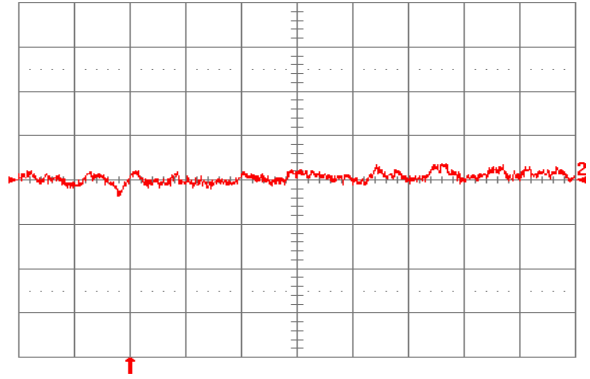

**Fig. 12V.14:** Test Setup for measuring input reflected ripple currents,  $i_c$  and  $i_s$ .
**Fig. 12V.1:** Available load current vs. ambient air temperature and airflow rates for SQ48T04120 converter with D height pins mounted vertically with  $V_{in} = 48\text{V}$ , air flowing from pin 3 to pin 1, and maximum FET temperature  $\leq 120^\circ\text{C}$ .
**Fig. 12V.2:** Available load current vs. ambient air temperature and airflow rates for SQ48T04120 converter with D height pins mounted horizontally with  $V_{in} = 48\text{V}$ , air flowing from pin 3 to pin 1, and maximum FET temperature  $\leq 120^\circ\text{C}$ .
**Fig. 12V.3:** Available load current vs. ambient air temperature and airflow rates for SQ48S04120 converter mounted vertically with  $V_{in} = 48V$ , air flowing from pin 3 to pin 1, and maximum FET temperature  $\leq 120^{\circ}C$ .
**Fig. 12V.4:** Available load current vs. ambient air temperature and airflow rates for SQ48S04120 converter mounted horizontally with  $V_{in} = 48V$ , air flowing from pin 3 to pin 1, and maximum FET temperature  $\leq 120^{\circ}C$ .
**Fig. 12V.5:** Efficiency vs. load current and input voltage for SQ48T/S04120 converter mounted vertically with air flowing from pin 3 to pin 1 at a rate of 300LFM (1.5 m/s) and  $T_a = 25^{\circ}C$ .
**Fig. 12V.6:** Efficiency vs. load current and ambient temperature for SQ48T/S04120 converter mounted vertically with  $V_{in} = 48V$  and air flowing from pin 3 to pin 1 at a rate of 200LFM (1.0 m/s).
**Fig. 12V.7:** Power dissipation vs. load current and input voltage for SQ48T/S04120 converter mounted vertically with air flowing from pin 3 to pin 1 at a rate of 300 LFM (1.5 m/s) and  $T_a = 25^\circ\text{C}$ .
**Fig. 12V.8:** Power dissipation vs. load current and ambient temperature for SQ48T/S04120 converter mounted vertically with  $V_{in} = 48\text{V}$  and air flowing from pin 3 to pin 1 at a rate of 200LFM (1.0m/s).
**Fig. 12V.9:** Turn-on transient at full rated load current (resistive) with no output capacitor at  $V_{in} = 48\text{V}$ , triggered via ON/OFF pin. Top trace: ON/OFF signal (5V/div.). Bottom trace: output voltage (5V/div.). Time scale: 1ms/div.
**Fig. 12V.10:** Turn-on transient at full rated load current (resistive) plus 1,000  $\mu\text{F}$  at  $V_{in} = 48\text{V}$ , triggered via ON/OFF pin. Top trace: ON/OFF signal (5V/div.). Bottom trace: output voltage (5V/div.). Time scale: 2ms/div.
**Fig. 12V.11:** Output voltage response to load current step-change (1A – 2A – 1A) at  $V_{in} = 48V$ . Top trace: output voltage (200mV/div.). Bottom trace: load current (1A/div.). Current slew rate: 0.1A/ $\mu$ s.  $C_o = 1\mu$ F ceramic. Time scale: 0.5 ms/div.
**Fig. 12V.12:** Output voltage response to load current step-change (1A – 2A – 1A) at  $V_{in} = 48V$ . Top trace: output voltage (200 mV/div.). Bottom trace: load current (1A/div.). Current slew rate: 5 A/ $\mu$ s.  $C_o = 47\mu$ F tantalum + 1 $\mu$ F ceramic. Time scale: 0.5 ms/div.
**Fig. 12V.13:** Output voltage ripple (50 mV/div.) at full rated load current into a resistive load with  $C_o = 10\mu$ F tantalum + 1  $\mu$ F ceramic and  $V_{in} = 48V$ . Time scale: 1 $\mu$ s/div.
**Fig. 12V.15:** Input reflected ripple current,  $i_c$  (100 mA/div.), measured at input terminals at full rated load current and  $V_{in} = 48V$ . Refer to Fig. 12V.14 for test setup. Time scale: 1  $\mu s$ /div.
**Fig. 12V.16:** Input reflected ripple current,  $i_s$  (10 mA/div.), measured through 10  $\mu H$  at the source at full rated load current and  $V_{in} = 48V$ . Refer to Fig. 12V.14 for test setup. Time scale: 1  $\mu s$ /div.
**Fig. 12V.17:** Output voltage vs. load current showing current limit point and converter shutdown point. Input voltage has almost no effect on current limit characteristic.
**Fig. 12V.18:** Load current (top trace, 5A/div., 20 ms/div.) into a 10  $m\Omega$  short circuit during restart, at  $V_{in} = 48V$ . Bottom trace (5A/div., 1ms/div.) is an expansion of the on-time portion of the top trace.